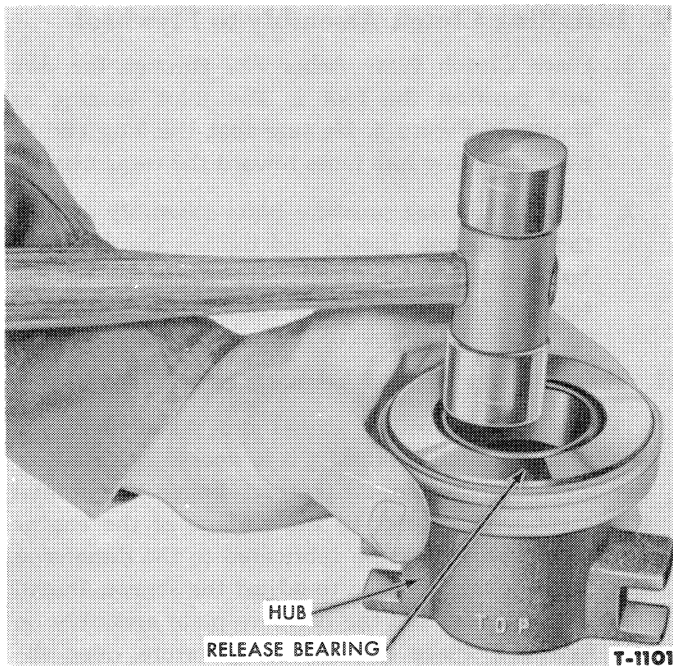

Figure 2—Removing Clutch Release Bearing
2. The release bearing is prelubricated and should not be cleaned in solvent. Check the bearings for free movement on the hub by pressing on the front face of the bearing as it is rotated. If bearing runs rough or has noticeable side movement, replace it. Remove release bearing from hub using a soft faced hammer as shown in Figure 2. Inspect bearing to determine if it has been turning on the hub. If score marks are present on the hub, replace the bearing and the hub.